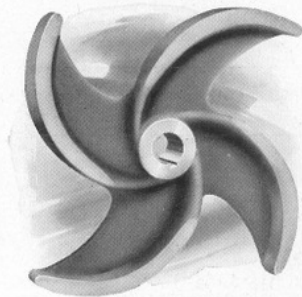

Fig. 914
**Impeller:** Cast iron, open type, Fig. 914.
Class "M" Centrifugal Pumps have an open type impeller, as shown in Fig. 914. It is of heavy construction and the design permits the pump to handle small foreign matter without danger of clogging. Especially suitable for low head work.
**Impeller:** Cast iron, open type. Fig. 914.